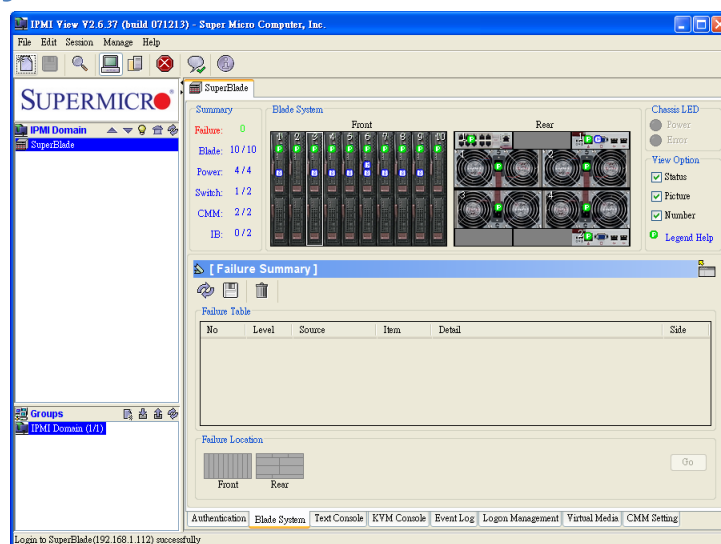

Figure 2-2 Blade System
2. Once you log in, you will be redirected to the Blade System tab (Figure 2-2). Several tabs also appear at the bottom of the window, including Blade System, Text Console, KVM Console, Event Log, Logon Management, Virtual Media and CMM Setting.